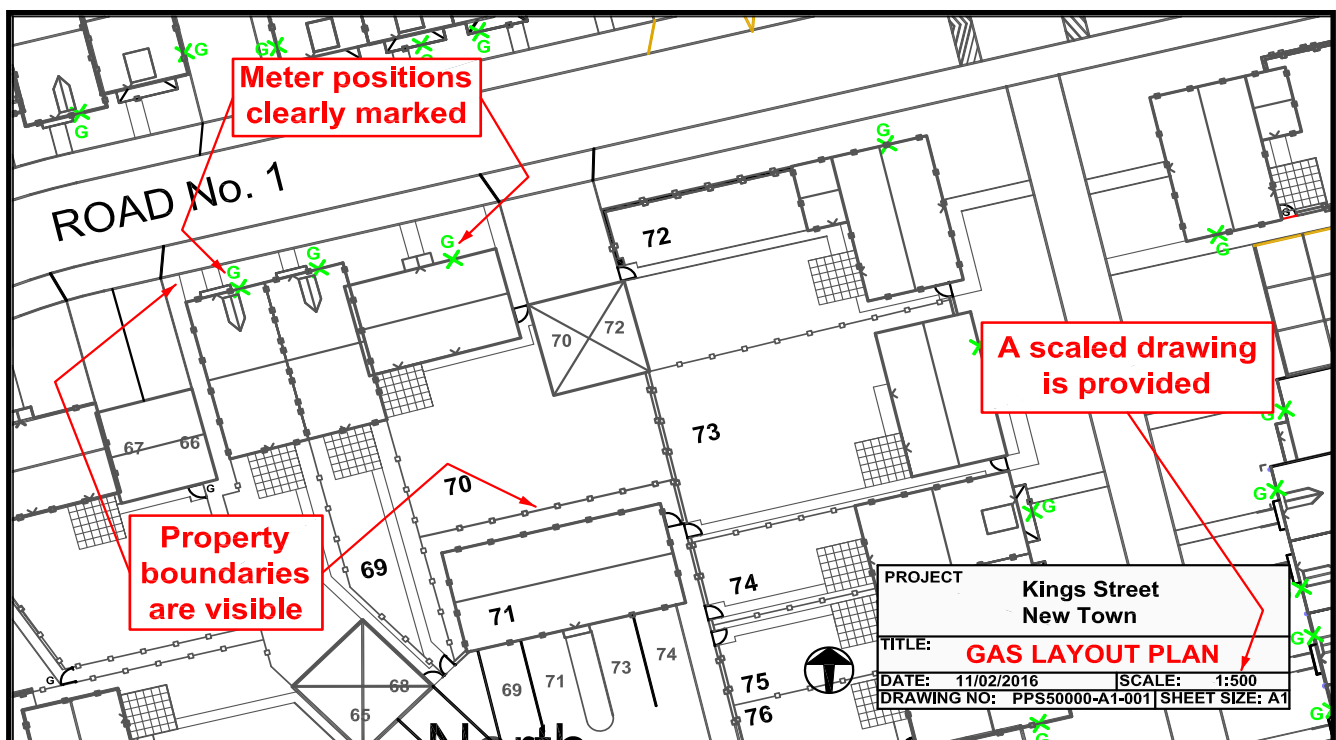

Fig 2 - Example of Site Plan required
- Meter positions need to be clearly marked with an X as shown in Fig 2.